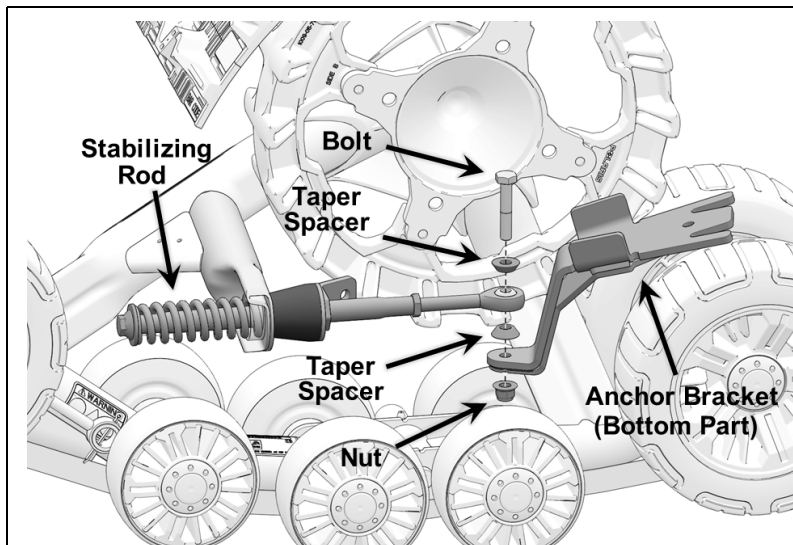

Figure 32
11. Attach bottom part of anchor bracket to stabilizing rod on Track Kit unit using the bolt, taper spacers, and nut provided in the mount kit. Hand tighten the nut temporarily. See Figure 32.